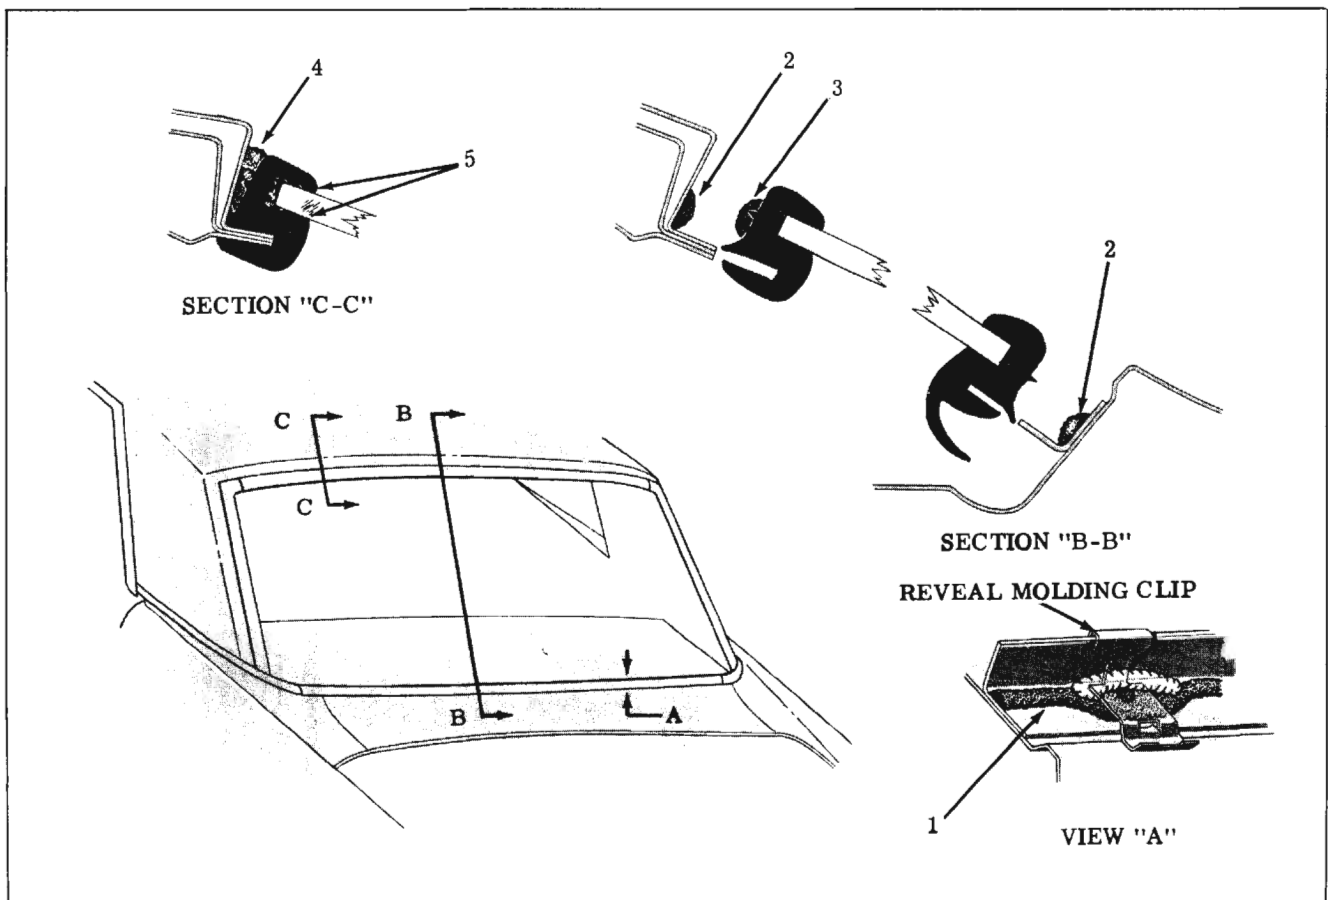

Fig. 16-95 Back Window Sealing
2. Check installation of reveal molding clips at pinchweld and retaining flanges and replace clips, where necessary. If replacing clips, apply medium-bodied sealer to opening rabbet, prior to installing clips. ("1", View "A", Fig. 16-95)
3. Apply a continuous ribbon of medium-bodied sealer (approximately 1/2 inch wide by 1/4 inch thick) on wall of rabbet, completely around opening. ("2", Section "B-B", Fig. 16-95)
5. Apply a continuous ribbon of medium-bodied sealer (approximately 1/2 inch wide by 1/4 inch thick) to base of rubber channel across top and down sides. ("3", Section "B-B", Fig. 16-95)
8. Using a pressure-type applicator, apply sufficient medium-bodied sealer to completely fill any openings between rubber channel and body completely around rubber channel. ("4", Section "C-C", Fig. 16-95)
9. Using a pressure-type applicator, apply weatherstrip adhesive (black) between rubber channel and glass on inside and outside of glass around entire perimeter of glass. ("5", Section "C-C", Fig. 16-95) Application of adhesive should be continuous with no skips.